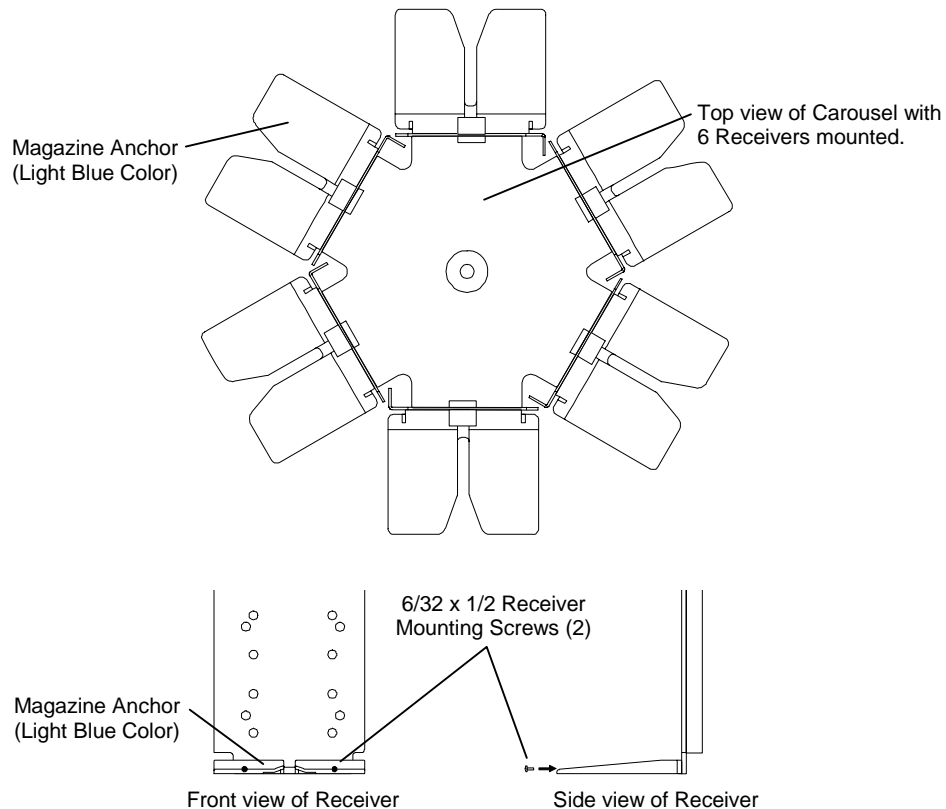

Figure 7-68 Magazine Anchors Shown on 54/64/84xx or 58/68/88xxx Models
5. Remove as many Magazine Anchors from the carousel of 54xx/64xx/84xx and 58xxx/68xxx/88xxx models as needed to access the Carousel PCBA. For each Magazine Anchor that is removed, use a number 2 Phillips screwdriver to remove the two Receiver Mounting Screws and then remove the Magazine Anchor. To keep the receiver in alignment replace the two Receiver Mounting Screws into the Receiver Mounting Screw holes and tighten with a number 2 Phillips screwdriver. See Figure 7-68.
at the bottom of the receiver and align the mounting screw holes. Insert the two Receiver Mounting Screws through the Magazine Anchor and tighten them securely with a number 2 Phillips screwdriver. See Figure 7-68.
6. For 54xx, 64xx and 84xx model libraries, remove all of the Magazine Anchors (3 or 6, model dependent). For each Magazine Anchor being removed, use a number 2 Phillips screwdriver to remove the two Receiver Mounting Screws and then remove the Magazine Anchor. To keep the receiver in alignment replace the two Receiver Mounting Screws into the Receiver Mounting Screw holes and tighten with a number 2 Phillips screwdriver. See Figure 7-68.
9. For each Magazine Anchor that was removed on 54xx, 64xx and 84xx models, use a number 2 Phillips screwdriver to remove the two Receiver Mounting Screws. Position a Magazine Anchor at the bottom of the receiver and align the mounting screw holes. Insert the two Receiver Mounting Screws through the Magazine Anchor and tighten them securely with a number 2 Phillips screwdriver. See Figure 7-68.